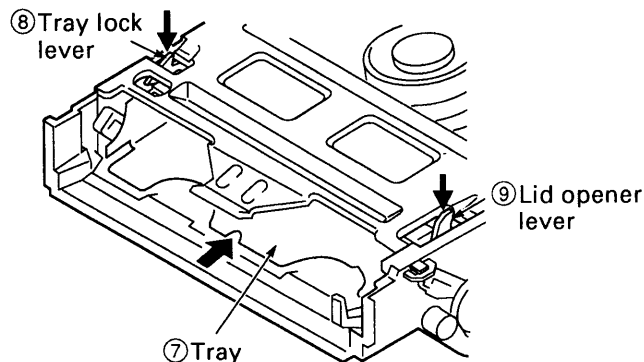

Fig.3-2-2
NOTE 1: When carrying out front loading, release the lock by pressing down the tray lock lever ⑧ and the lid opener lever ⑨ of the cassette mechanism assembly (shown in Fig.3-2-2) in the direction of the arrow.
When carrying out front loading, release the lock by pressing down the tray lock lever ⑧ and the lid opener lever ⑨ of the cassette mechanism assembly (shown in Fig.3-2-2).
- 2) Unplug the flat cable ① from the VM-1/VP-1 PWB assembly on the cylinder (drum), and unplug the ACE head connector ③.
- 3) Remove the screw ②, the two screws ④, then remove the VM-1/VP-1 PWB assembly ⑤, lifting it upwards. The shape of the VM-1/VP-1 PWB assembly and the bracket varies according to the model.
- 4) Remove the four screws ⑥ and the two screws ⑩, then lift up the mechanism unit. The tray ⑦ will stop you removing the two screws ⑥ on the front, so release the lock by pressing down the tray lock lever ⑧ and the lid opener lever ⑨ shown in Fig.3-2-2, then slide off the tray ⑦. Move the tray by referring to section 3-1 and turn the loading motor in the PLAY direction.